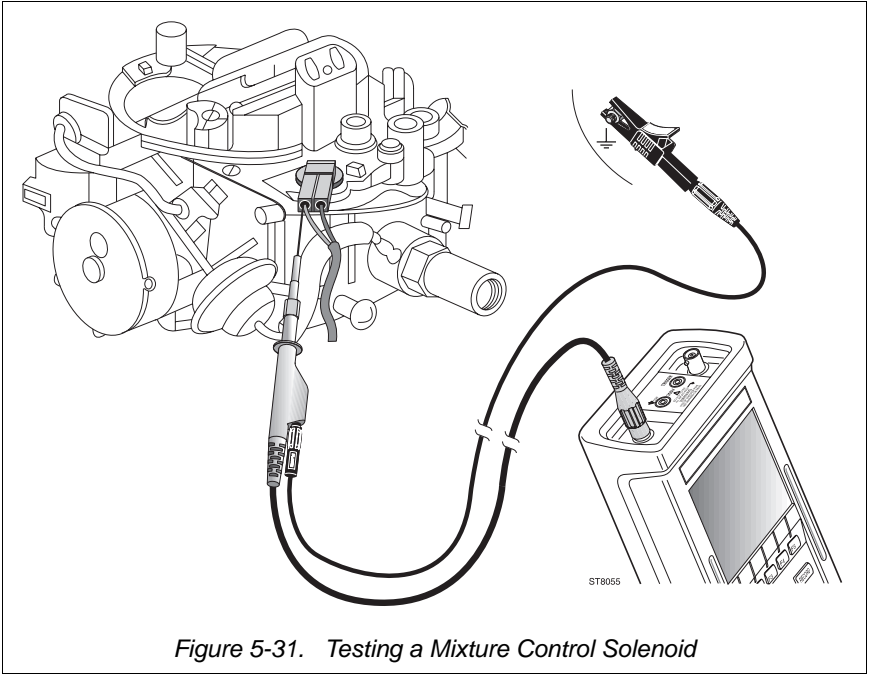

Figure 5-31. Testing a Mixture Control Solenoid
①
②
③
④ Connect the test leads as displayed by the test tool's Connection Help and shown in Figure 5-31.
⑤  Starts the Mixture Control test.